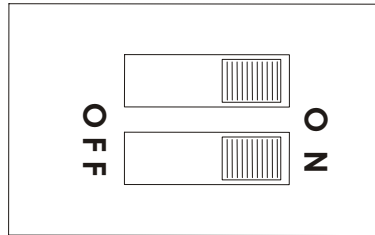

Figure 9-3 12V DO Dip Switch
- 3) Carefully remove the plastic wrap covering from the S3 dip switch (see Figure 9-3) on the DO module board. Note: Ignore text on the board that OFF/OFF is the factory default.